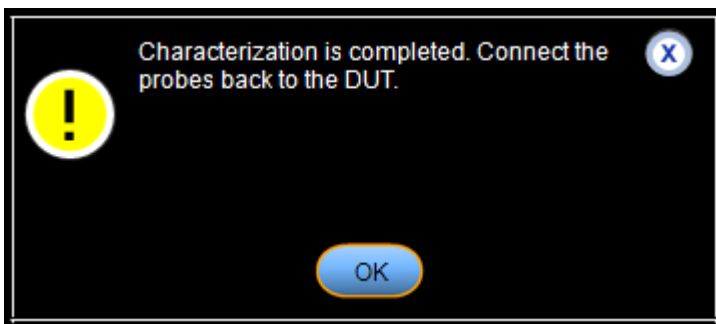

Figure 27: Characterization completed pop-up
- Once the characterization is complete a pop-up will appear, as shown in Figure 27 on page 28. Connect the probes back to DUT, if any.